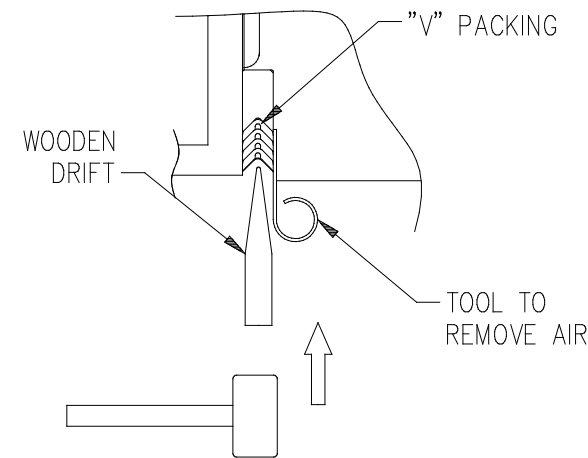

Fig. 6.6.5
- Apply a layer of oil to the V-packing and insert it into bore of cylinder. Insert a thin wire of $\pm 0.07 - 0.1$ diameter between packing inner bore and ram to allow the air to escape while V-packing is pushed down. Use a flat chisel with rounded tip, or other suitable object, and hammer to knock V-packing down until it is completely bottomed before the next one is inserted. (Fig. 6.6.5)